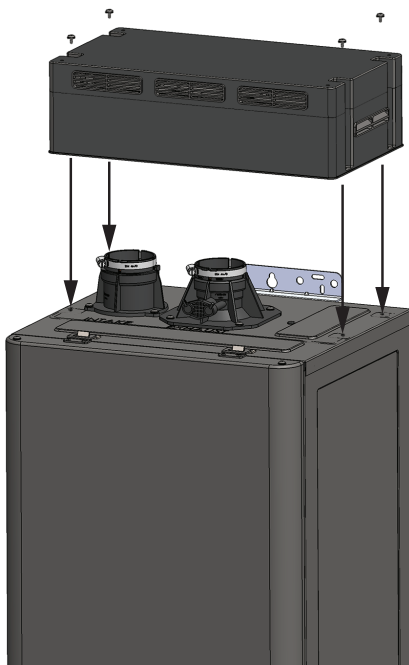

Figure 31 - Outdoor Vent Cap secure with screws.
- 2 Orient the outdoor vent cap as shown in Figure 31.
- 3 Secure the Outdoor Vent Cap to the water heater at each corner with the screws removed earlier. See Figure 31.